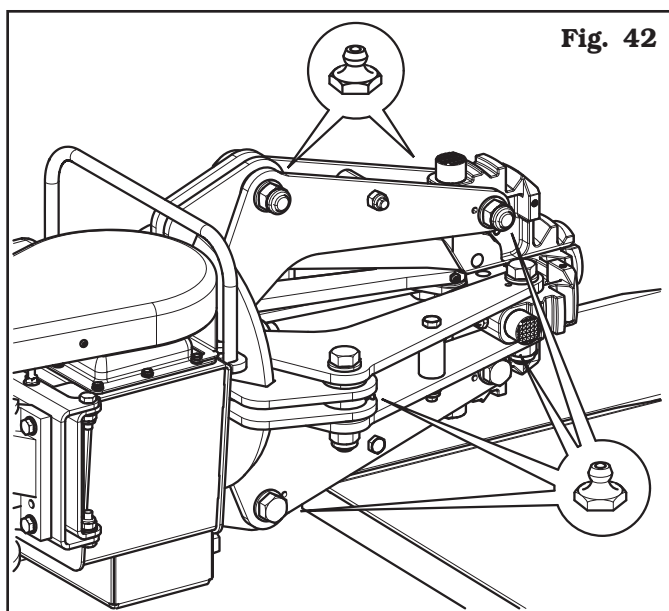

Fig. 42
- Periodically (preferably once a month), grease all moving parts of the machine (see **Fig. 42**).